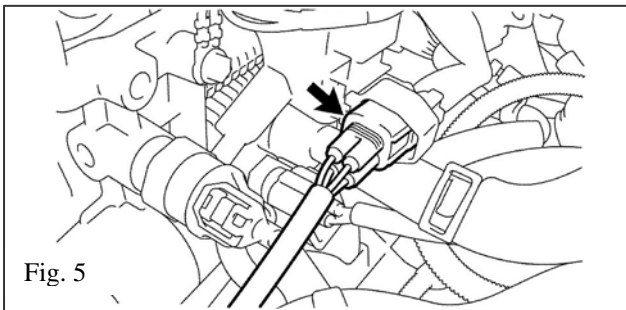

Fig. 5
- (g) Temporarily disconnect Air Fuel Ratio (AFR) Sensor at the electrical connector. Fig 5. AFR sensor should be left disconnected until later, after exhaust heat shield is replaced. Disconnect plastic retainer clip holding Air Fuel Ratio (AFR) Sensor wire to radiator hose. Save plastic clip for reuse later.